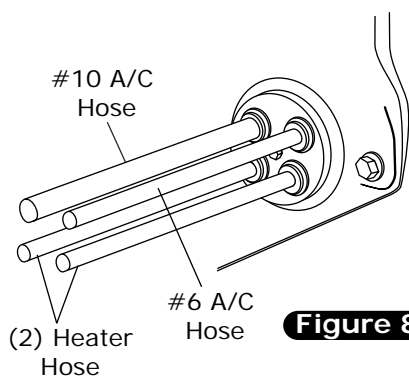

Figure 8
2. Route A/C and heater hose through fresh air cap and kick panel fresh air cap as shown in Figures 8 and 8b, below.